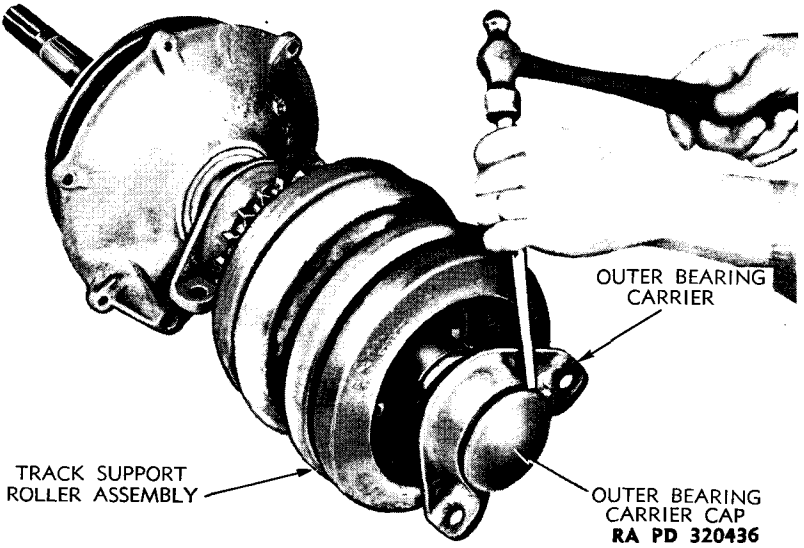

Figure 25 — Removing Outer Bearing Carrier Cap
a. **Remove Outer Bearing Carrier.** Drive outer bearing carrier cap from bearing carrier (fig. 25). NOTE: *Prying off cap might result in damage to cap.* Remove cotter pin from end of final drive shaft.